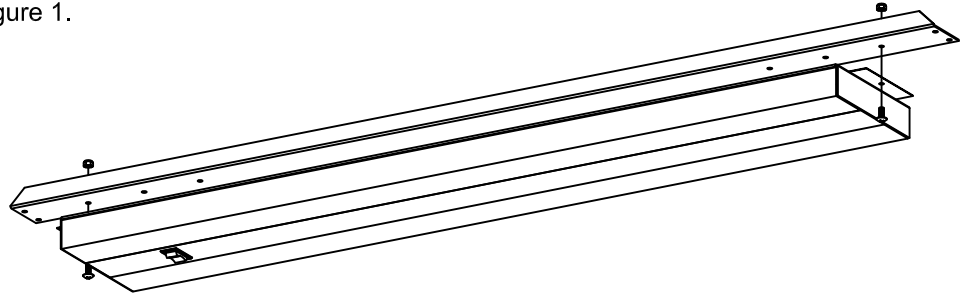

Figure 1
Step 1. Place light fixture on flat surface. Align holes in cross brace with holes in light fixture. Attach the light fixture with two 1/4"-20x5/8 hex head bolts and two 1/4"-20 nuts as shown in figure 1.